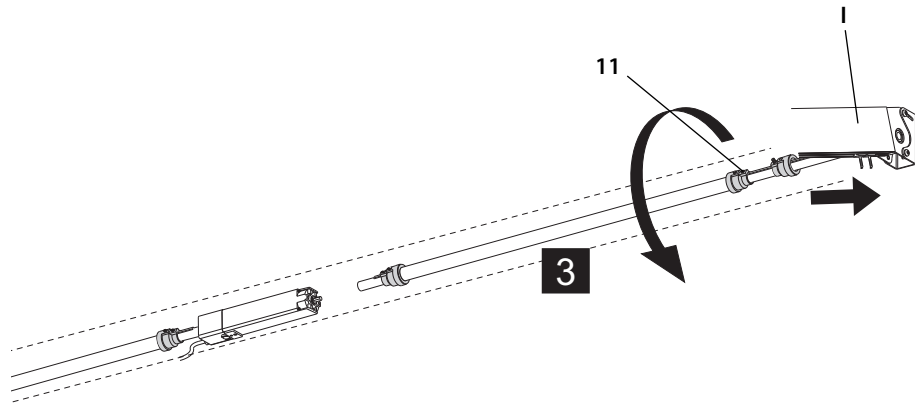

fig. 30 - Shaft installation
Loosen the screw (15), run the shaft (1) rotating it (see fig. 30) to compact the sliders in the runner (I).